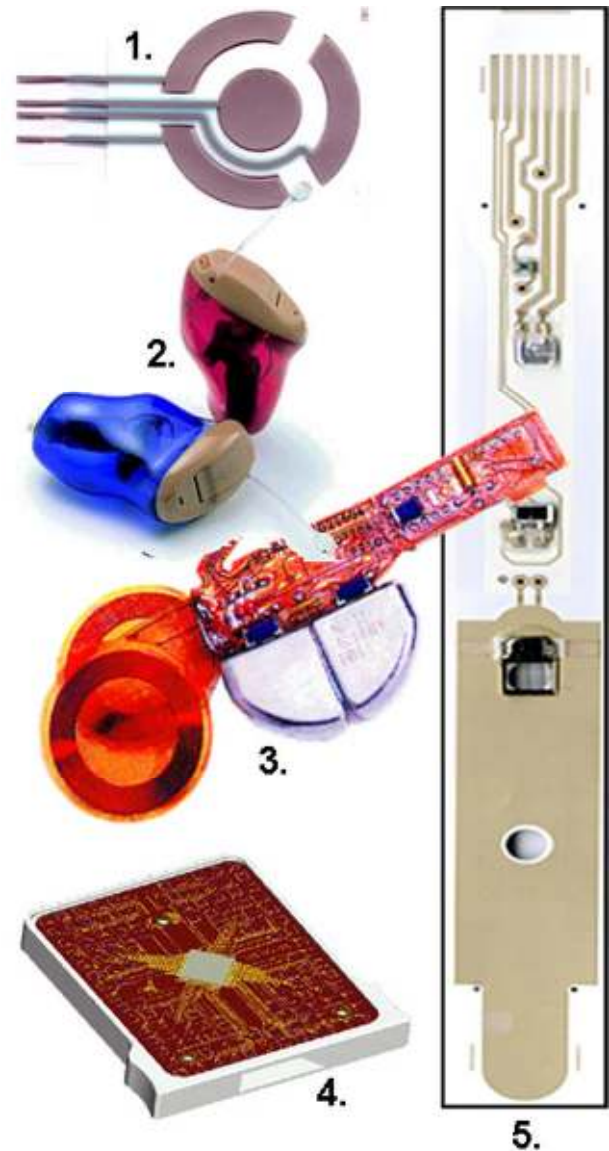

Figure 9 - Medical Flex
Flex is used in pacemakers, hearing aids, sensors, monitors, drug delivery, attachable electrodes, and within much of the medical equipment in use today. Figure 9 shows a montage of flex-containing health and medical products. These flex-enabled products (not to scale) are: (1) a PTF electrode, (2) hearing aids (3M), (3) pacemaker circuit, (4) DNA analyzer, (5) wearable oxygen-sensing spectrophotometer made with PTF; conductive adhesives are used for SMD assembly.